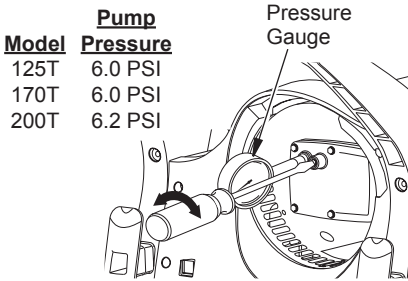

Figure 12 - Adjusting Pump Pressure
- Adjust pressure. Turn relief valve to right to increase pressure. Turn relief valve to left to decrease pressure. See specifications below for correct pressure (see Figure 12).